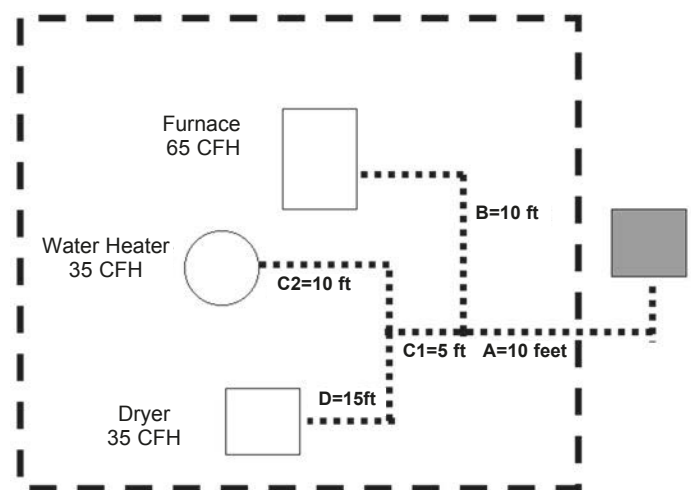

Figure: 3-7
1. The system presented in Figure: 3-7 is similar to that in 3-1, a single-family installation with the addition of one more appliance, a dryer. The supply pressure is 6 inches water column and the allowable pressure drop is 0.5 inch.